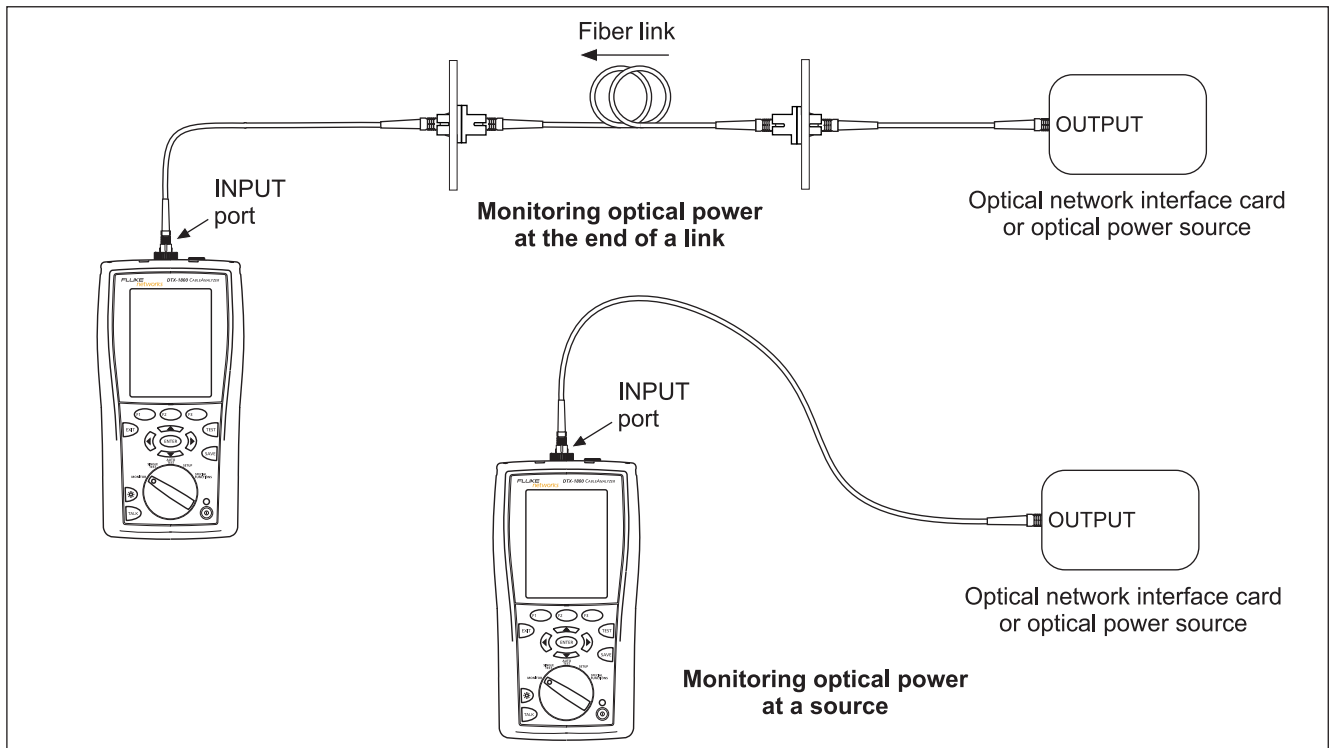

Figure 22. Connections for Monitoring Optical Power
- 2 Use the test reference cord to connect the source to the tester's input port, as shown in Figure 22. Turn on the source.